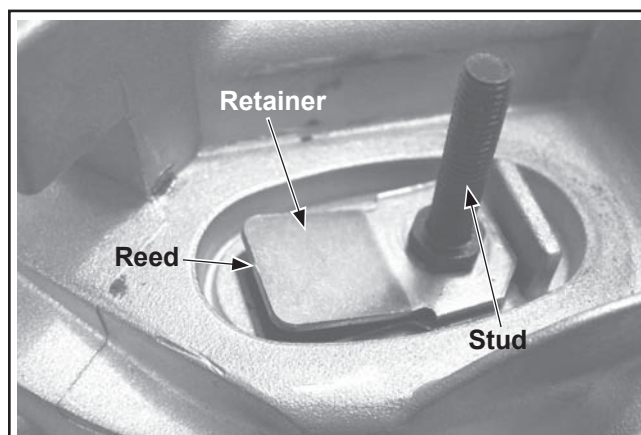

Figure 10-28. Installing Breather Reed and Retainer.
1. Install the breather reed, followed by the retainer over the passage hole and mounting hole in the crankcase. Hold in position and secure with the mounting stud. Torque the stud to **6.2 N·m (55 in. lb.)** into a new, cored hole, or **4.0 N·m (35 in. lb.)** into a used hole. See Figure 10-28.